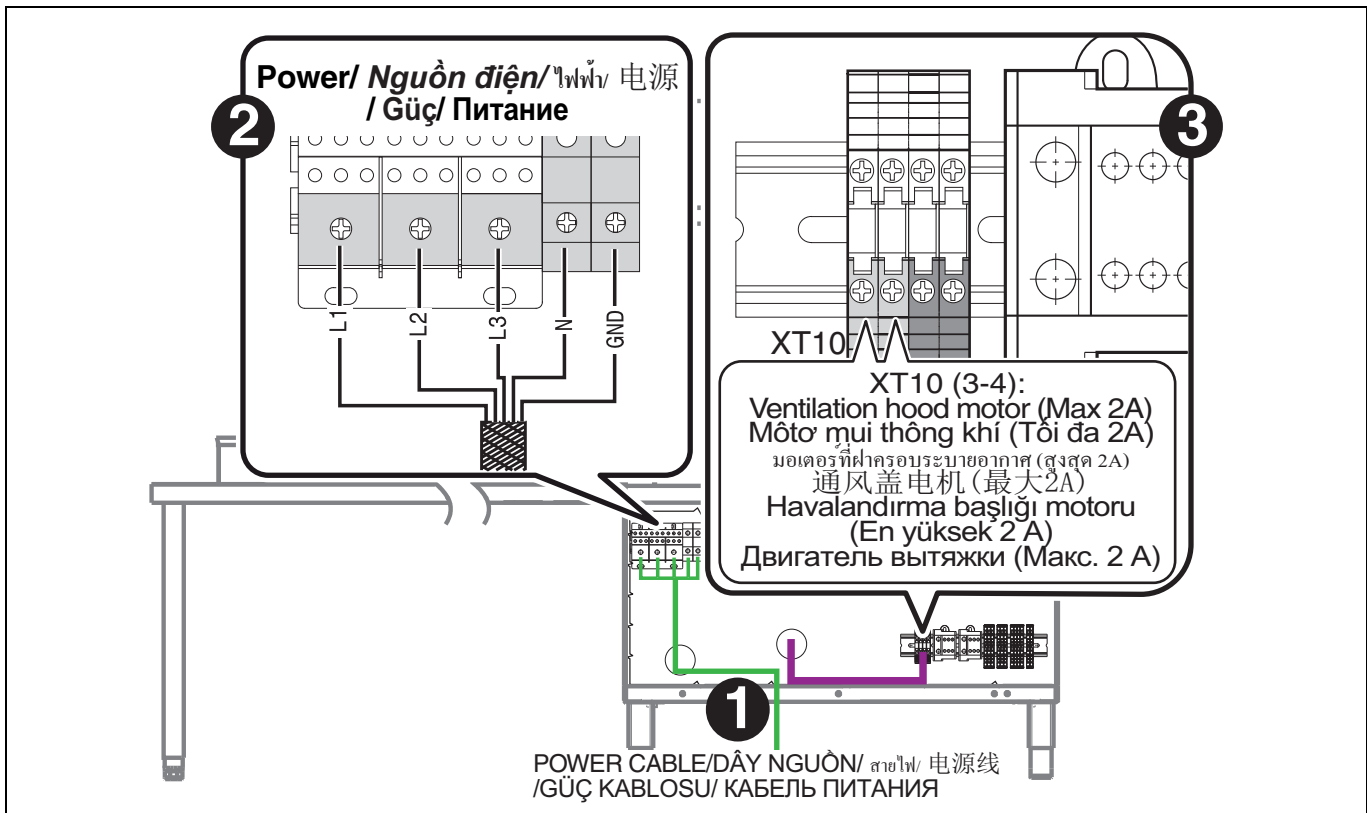

Figure 19 Electrical connections diagram
- remove the front panels of the wash zone (Figure 19);
- pass the power cables through holes as shows in the picture and secure it with the special cable gland (point 1- Figure 19);
- connect the power cable to the terminal blocks as indicated in the wiring diagram attached to the equipment (point 2 - Figure 19);
- Close the front panels of the wash (Figure 19).